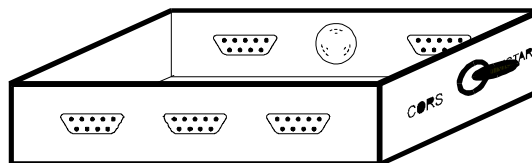

Figure 3
6. Cut holes in the project box for mounting the switches and 9 pin bulkhead connectors (see **Figures 3 and 4**). Mount the switches and bulkhead connectors. Using hex standoffs on the outside of the box with short screws on the inside to fasten the bulkhead connectors which will allow the cables, eventually connected, to be fastened to the box using thumbscrews.